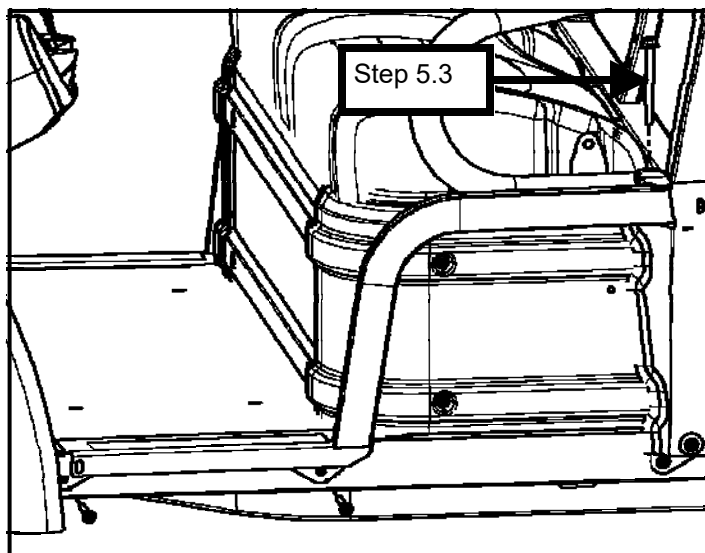

Figure 5.2: Front floorboard panel
- (2) 5/16-18 Flanged nut
Install two (2) 5/16" x 2-3/4" bolts through the holes under the floorboard, through the Carryall frame and install a nut on the bolts, on the inside of the frame. Leave bolts loose. (**Figure 5.2**).
- (1) M10 x 1.50 Flanged nut
Install one (1) M10 x 110mm bolts through the bracket at the rear of the fender panel and through the seat side bolster. Install the large washer from step 1.4, and a new M10 flanged nut on the bolts, under the Carryall frame. Leave bolts loose. (**Figure 5.2**).